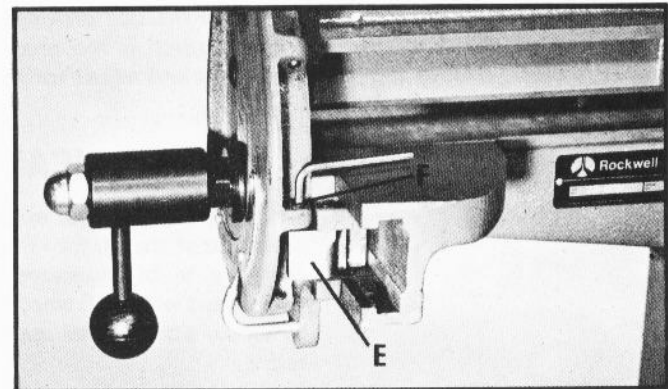

Fig. 14
To tilt fence, move the fence adjusting handle (A) in toward the machine to engage the nut (D). Loosen nut (D) and tilt the fence to the desired angle, right or left and retighten nut. When tilting fence past the positive stops, the stop block (E) Fig. 14, must be moved out of the way.
The fence on your jointer features positive stops at the most used fence positions of 90 degrees and 45 degrees right and left. Check the fence with a square to make sure the fence is 90 degrees to the table. If an adjustment is necessary, turn the adjusting screw (F) Fig. 14, in or out against the stop block (E) until the fence is at 90 degrees to the table. Check the positive stops at 45 degrees right and left and adjust if necessary.